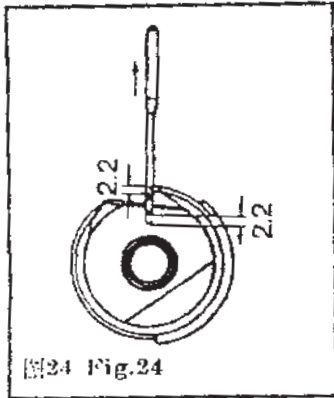

图24 Fig.24
- (1) 旋梭的勾线尖，应与机针的中心线一致；
- (2) 在此位置时，勾线尖应高于机针孔上边 2 毫米 (图 24)。
- (1) Looping point of rotary hook should be in with the mid-line of needle;
- (2) Looping point should be 2mm higher than the hole of needle (Fig.24)
The top of feed dogs should be 0.6~1mm higher than the level of needle plate when the feed dogs rise in the highest position. If sewing special heavy or light materials, the gauge of feed dogs should be regulated. When adjusting, first loosen the fixed screw 4 (Fig.24) of lifting belt crank.